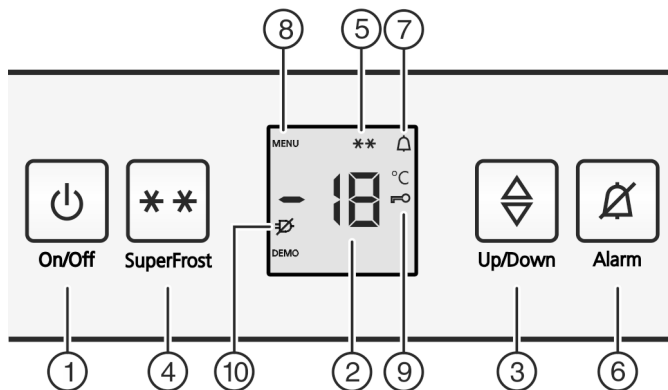

Fig. 2
- ▶ Press the On/Off button *Fig. 2 (1)*.
- ▶ Activate setting mode: press the SuperFrost button *Fig. 2 (4)* for approx. 5 seconds.
- ▶ The Menu symbol *Fig. 2 (8)* is shown on the display.
- ▶ Briefly confirm with the SuperFrost button, *Fig. 2 (4)*.
- ▶ The child lock symbol *Fig. 2 (9)*, lights up on the display.
- ▶ Briefly press the On/Off button *Fig. 2 (1)*.